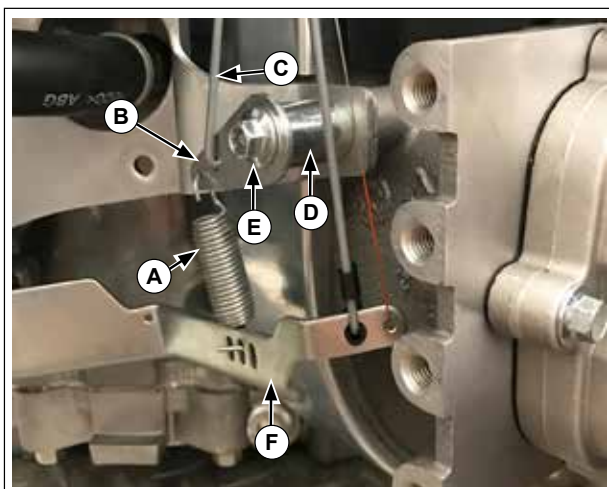

Figure 2. New Governor Linkage Lever and Governor Spring.
2. Hook the speed control linkage (C) and the new governor spring (A) into the new governor linkage lever (B). See Figure 2.
3. Hook the new governor spring (A) into the middle slot of the governor lever (F). Orient spring ends as shown in Figure 2. Secure the new governor linkage lever (B) and the spacer (D) with the M6 screw (E). Torque screw (E) to 10.2 N·m (90 in. lb.). See Figure 2.